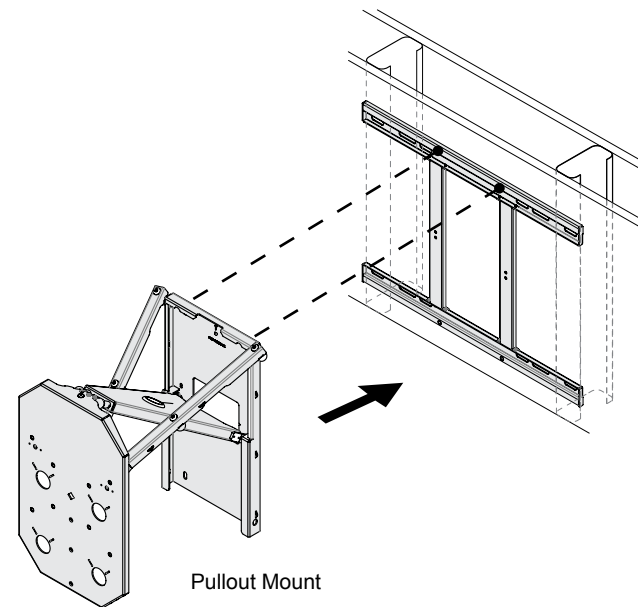

Fig. 2
- 2 Hang the pullout mount on the M8 x 12mm combo screws that were pre-installed in the wall frame (Fig. 2).